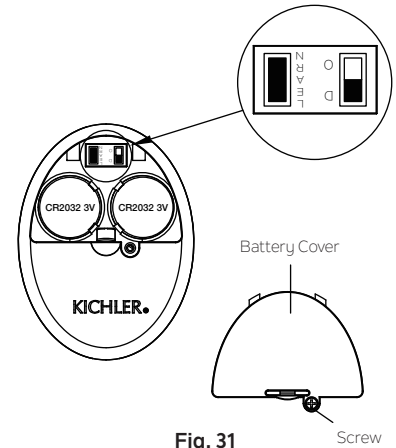

Fig. 31
Otherwise the remote control will not work. To perform this process manually, follow steps below: After installing and wiring the unit, restore power to your fan, press and hold the LEARN key for 1-3 seconds, the fan will turn on at medium speed and light (if installed) will turn on. This confirms that the learning process have been completed. This operation must be completed within 30 seconds after restoring power to the fan. (Fig. 31)
**NOTE:** Ensure slide switch in battery compartment marked “D O” is set to “D” position. (Fig. 31)
**Step 4.** Replace the battery cover and tighten with screwdriver. (Fig. 31)